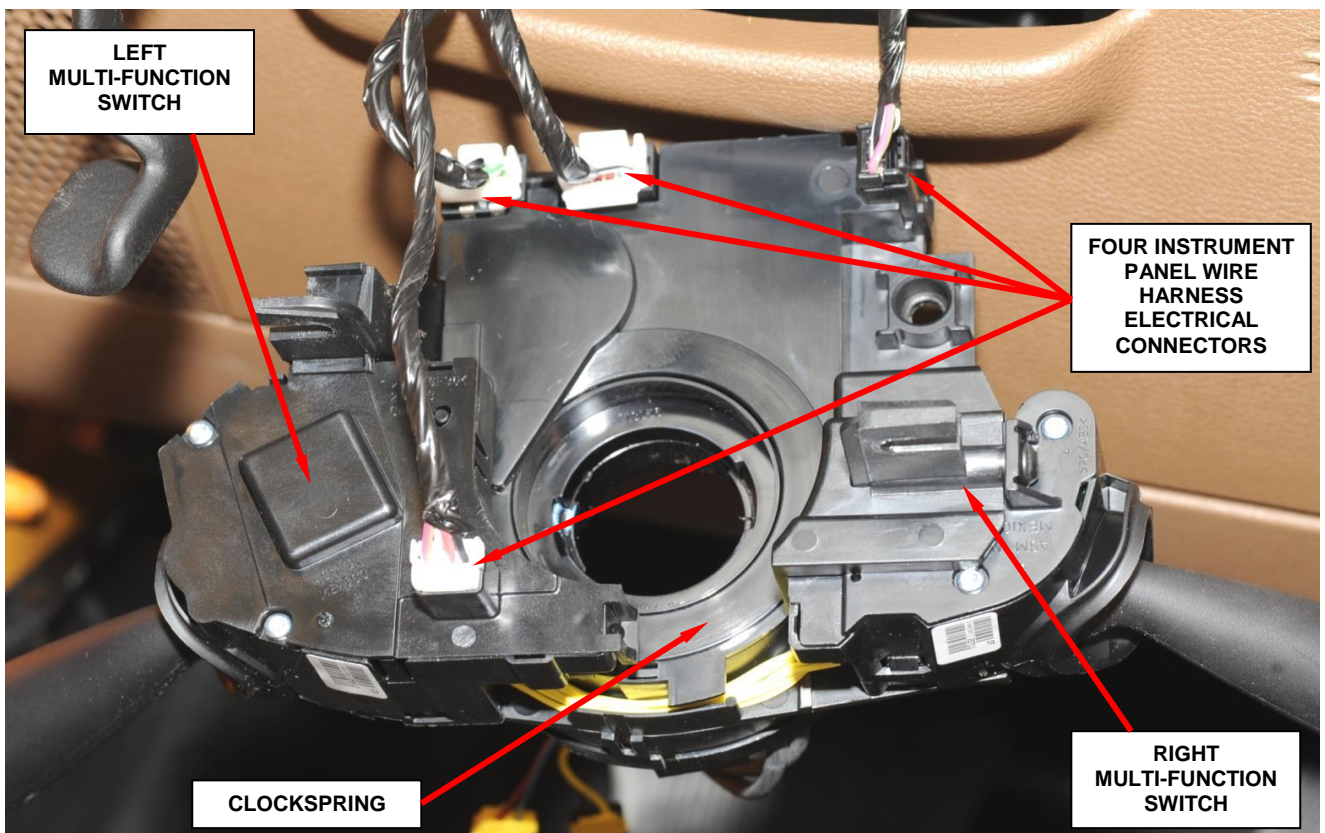

Figure 4 – Clockspring Electrical Connectors
- 11. Pull the clockspring away from the steering column lock housing far enough to access and disconnect the four instrument panel wire harness electrical connectors from the receptacles on the back of the clockspring (Figure 4).
19. Carefully slide the clockspring down over the steering column upper shaft far enough to reconnect the four instrument panel wire harness connectors to the receptacles on the back of the clockspring case (Figure 4).